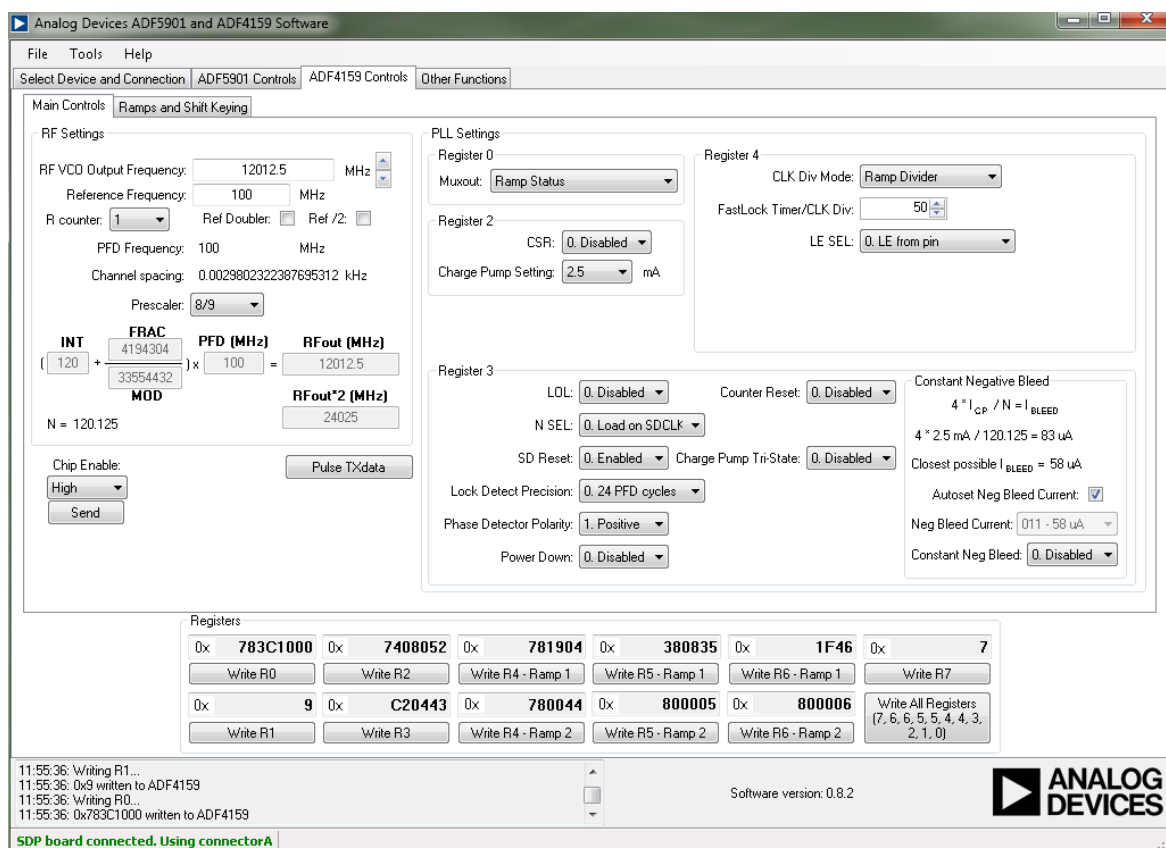

Figure 4. Software Front Panel Display—**ADF4159 Controls**
9. Click the ADF5901 **Controls** tab and click **Write All Registers** (see Figure 4).
To control the **ADF4159** settings (see Figure 4), select the **ADF4159 Controls** tab.
Click the button under each register value within the **Main Controls** tab to write that value to the device. The register values are shown in Figure 4 at the bottom of the window. When the background of a register value is green, this indicates that the value was changed and needs to be written to the device.